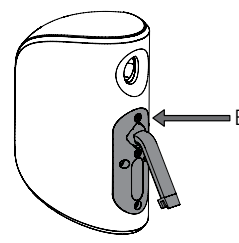

Figure 14
For wall-mount portrait orientation, where you do not need maximum downward tilt and want to hide the wall bracket as much as possible behind the speaker, loosen the other ball joint securing screw (B), rotate the stem a further 90° and tighten the screw (Figure 14).